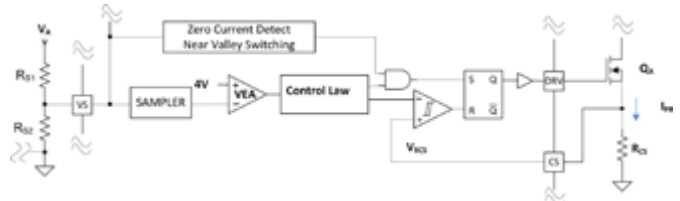

Figure 2: Functional schematic of constant voltage/current flyback controller
PSR controllers use a combination of valley switching; frequency modulation (FM) and primary peak current (IPP) amplitude modulation (AM) to control the duty cycle of the quasi-resonant/discontinuous flyback converter. This improves overall system efficiency and reduces standby input power. See Figure 2 for a functional schematic for this type of flyback controller.